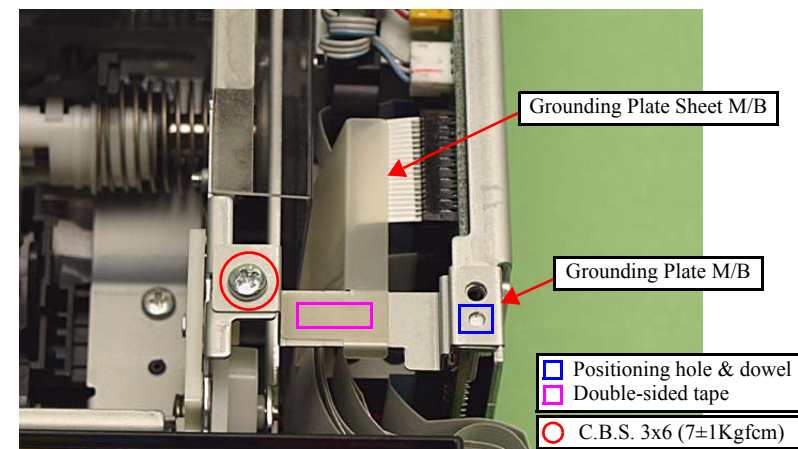

Figure 4-230. Removing the Grounding Plate M/B
- When replacing the Grounding Plate Sheet M/B, insert the sheet between the FFC and the Main Frame, and secure it with double-sided tape to the Grounding Plate M/B. (See Fig. 4-230.)